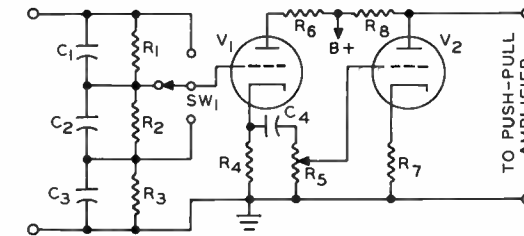

FIGURE 7
23. (a) in phase -- A cathode follower stage does not invert a signal. In Figure 7, the signal at the cathode of V_1 , coupled through C_4 to R_5 , is in phase with the signal applied to the grid of V_1 .